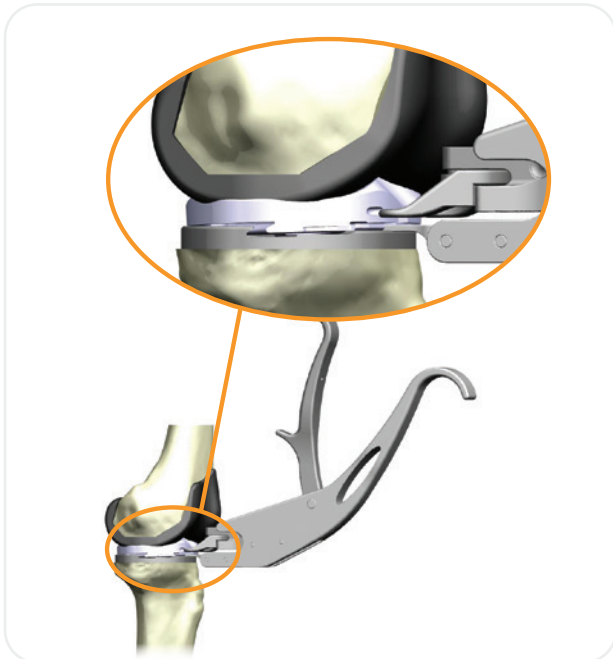

Figure 56
3. Insert the tip of the Articular Insert Assembly Tool into the center notch of the anterior lock detail (handle up) and engage the two tabs of the Tool into the two recesses on the anterior periphery of the insert (**Figure 56**).